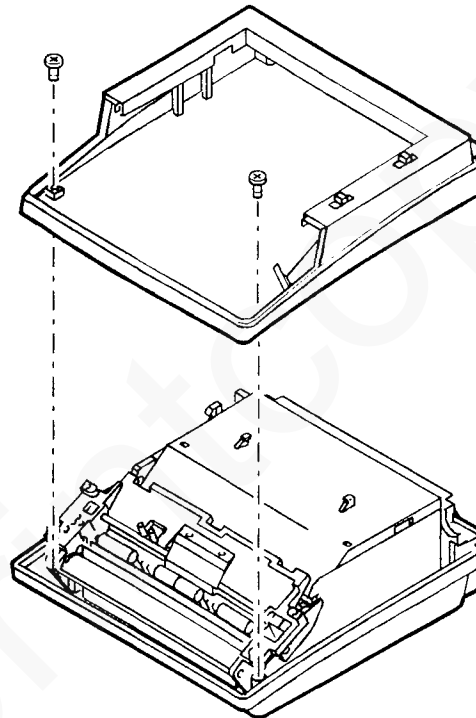

Figure 2. Top Cover
6. Turn the machine right side up and remove two screws (Figure 2) retaining the top cover.